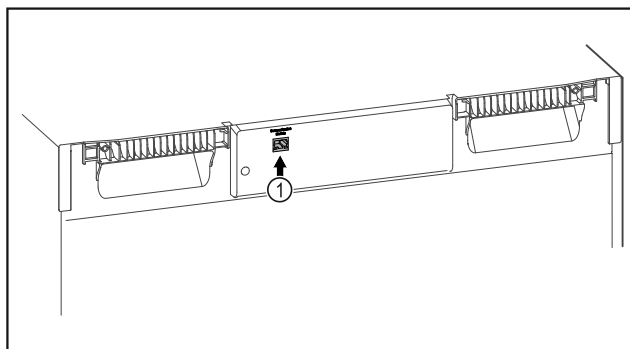

Fig. 79
- ❑ SmartModule Fig. 79 (1) is in use.